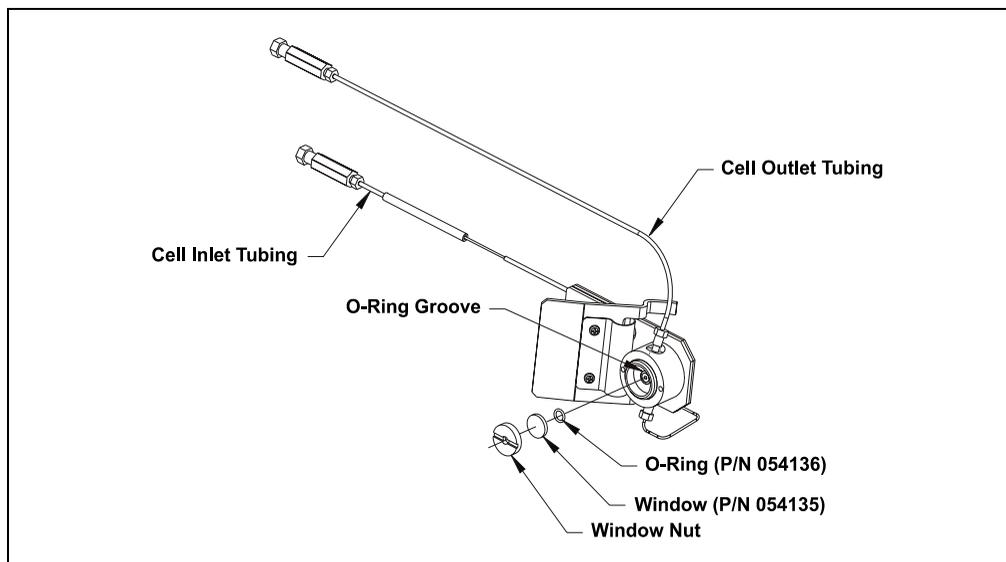

Figure 5-2. Replacing the Flow Cell Windows (Light inlet side shown)
3. Using the windows replacement tool (P/N 060497), remove one of the window nuts from the flow cell (see Figure 5-2). It does not matter which window nut you remove first.
5. Use tweezers to carefully remove the O-ring from the groove (see Figure 5-2).